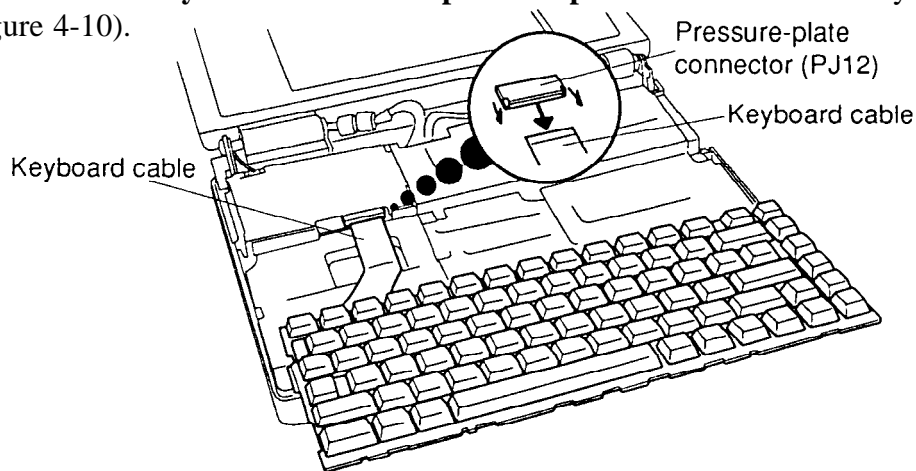

Figure 4-10 Removing the Keyboard
To remove the T4500/T4600 Family computer's keyboard, follow the steps below and refer to Figure 4-10.
4. Disconnect the **keyboard cable** from **pressure-plate connector** on the system board (Figure 4-10).
To install the computer's keyboard, follow the steps below and refer to Figures 4-10 and 4-11.
1. Connect the **keyboard cable** to the **pressure-plate connector** on the system board (Figure 4-10).